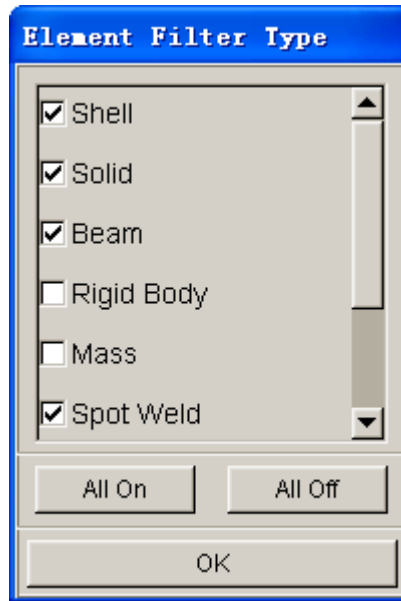

Figure 4.4.6 Element Filter Type dialog box
- If the Filter option is toggled on, user can select the specifically element type through this option. User can click the FILTER TYPE button to set the element type. The Element Filter Type dialog box is illustrated in Figure 4.4.6.